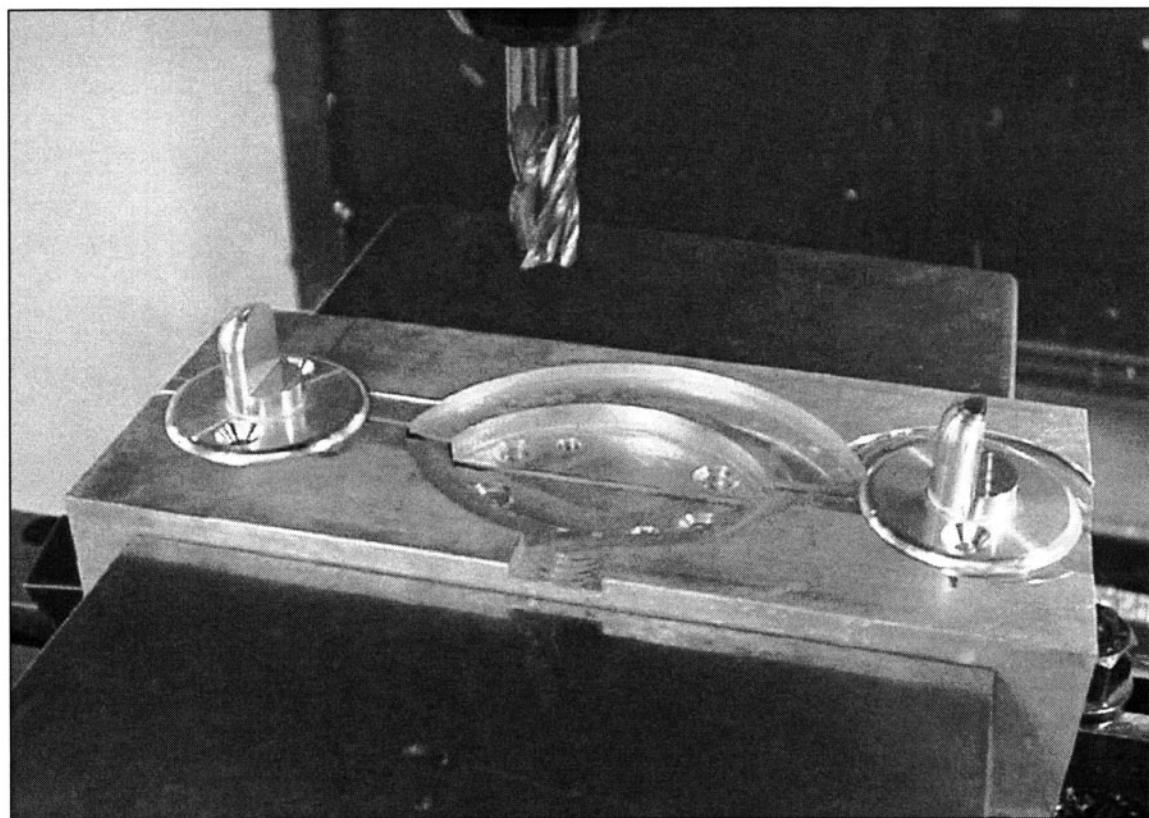

FIGURE 4-7 Perishable vise jaws come in handy for holding odd shaped parts.
9. *Use soft jaws in a milling machine vise. (See Fig. 4-7)*